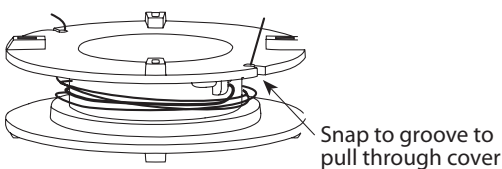
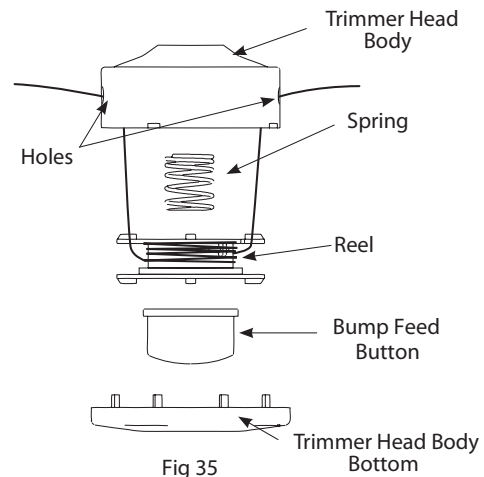

Fig.34
Fig 35
5. Wind cord in direction indicated (CW) leaving 6 in (15-20 cm) access to pull through holes trimmer head body (Fig. 34).
6. Snap the free length of lines into top grooves in reel and pull through holes on trimmer head body (Fig. 34 and Fig. 35).
7. Close assembly in sequence as shown in (Fig. 35).